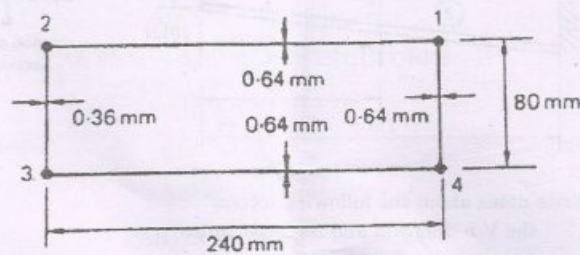

Figure 3
- (b) In Figure 3, boom areas 1 and 4 are 1.75 cm^2 while boom areas 2 and 3 are 1.50 cm^2 . The webs of the section are assumed to be ineffective in bending. Determine all section properties of the given section. Obtain the shear flow pattern when the given section is subject to 900 N vertical shear.